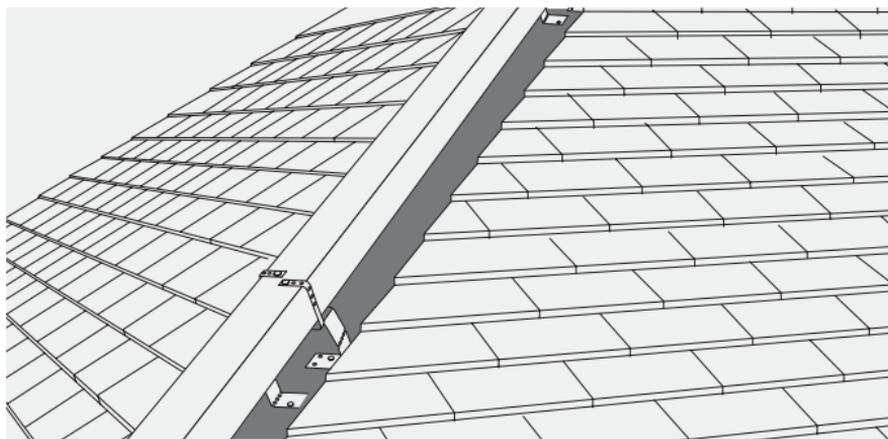

Fig. 57 – Fixing hip batten
- Secure either one or two thicknesses of 50mm x 25mm tiling batten to the top of Batten Brackets, parallel to hip rafter, by folding over Batten Bracket arms and nailing through perforations into the battens using nails provided (Fig. 57).